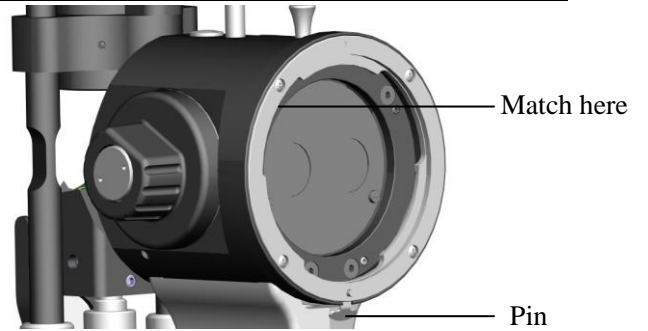

Fig.2.2.4
4. Take out the binocular tubes of microscope part (Fig.2.1.3), match the groove on the binocular tubes with the pin on the microscope body. Fasten the fixing screw on the body to the microscope (Fig.2.2.4). ATTENATION: Don't touch the objective lens and eyepiece when assembling.